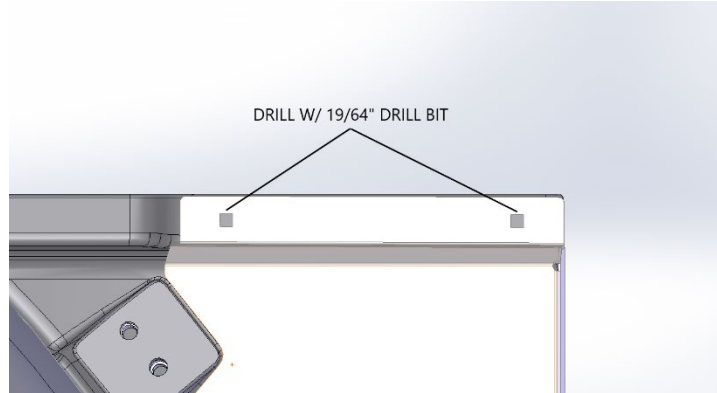

Figure 3 – Mounting Hole Locations Shown
- a. Mounting Holes: 19/64" or 5/16" drill bit (see Figure 3).